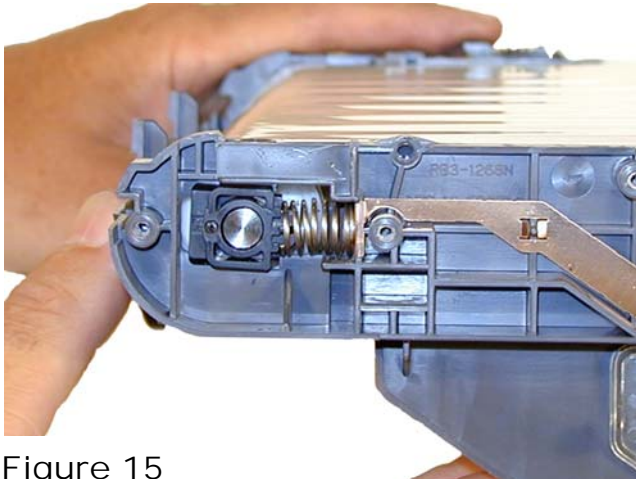

Figure 15
11) Remove the tension spring from both sides of the transfer belt. See **Figures 15 & 16**